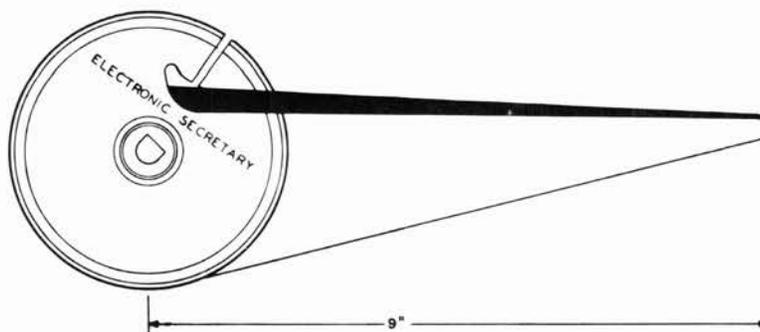
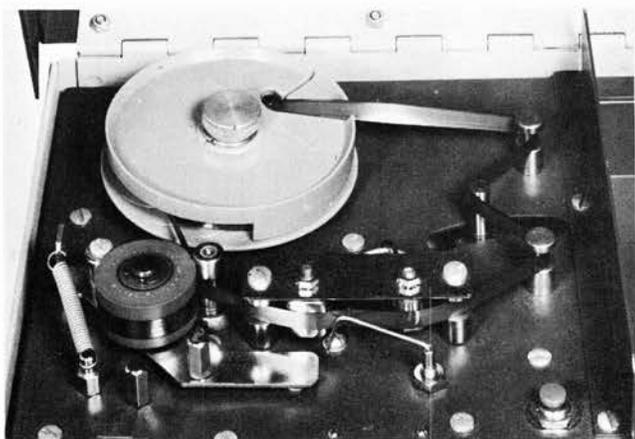

Figure 3. Cartridge Assembly and Tape Slack.
Figure 4. Cartridge Assembly Threaded on Tape Deck.
- 2.05 Pull approximately 9 inches of tape out of the cartridge being careful not to twist the tape (see Figure 3). Thread the tape around the guide pillars, (see Figure 4), tape tension arm, and head assembly. Pull back on the tape switch actuator arm and allow it to rest itself against the tape. Pull back the pressure roller assembly and thread the tape between the rubber pressure roller and the capstan. Release the pressure roller assembly, making sure that the tape is properly positioned in the guides.
5.04 When in the mechanism, the tape should move freely around the pillars and heads. Assure that the tape does not bind in the cartridge and that there is sufficient tape slack (see Figures 3 and 4).